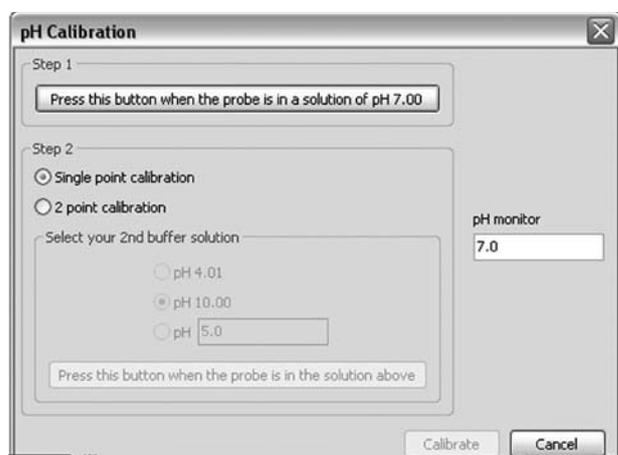

fig 1
1. Place the electrode in a pH 7 buffer solution and click on the top button shown in fig 1. If performing a single point calibration, click 'Calibrate'.